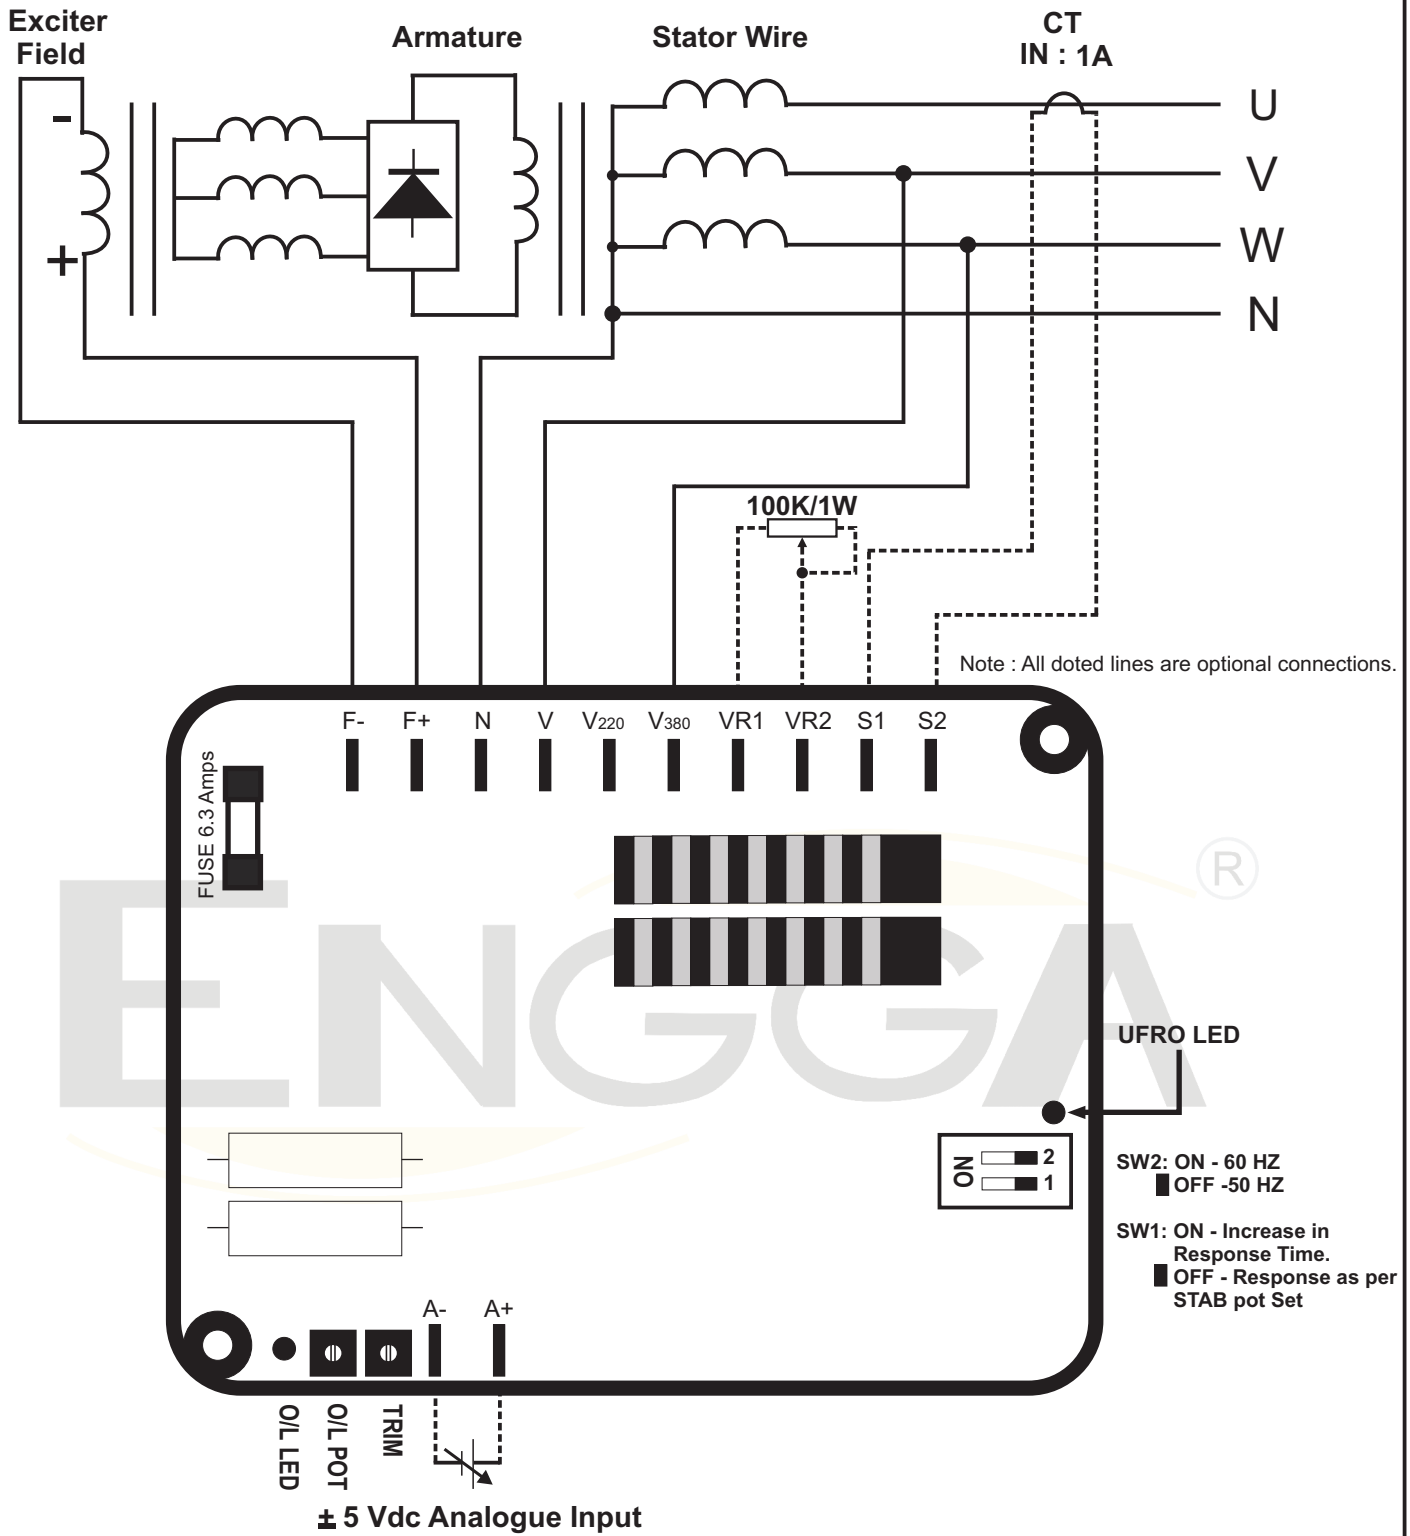

Figure 3. Connection Diagram for 400 Vac Operation
The sensing should be connected "Line to Line" from generator output. Refer Figure 3 & 4.
3. Power Input: AVR power input is between N & V. **For 400 Vac system** N is connected to Neutral of generator & V to V Phase of generator. **For 220 Vac system**, N is connected to U Phase & V to V Phase of generator. Refer to Figure 3 & 4.
If an external voltage adjust control is being used, connect a 100 K / 1 watt potentiometer to terminals VR1 and VR2 as shown in Figure 3 & 4. If not in use then let VR1 & VR2 is left open.